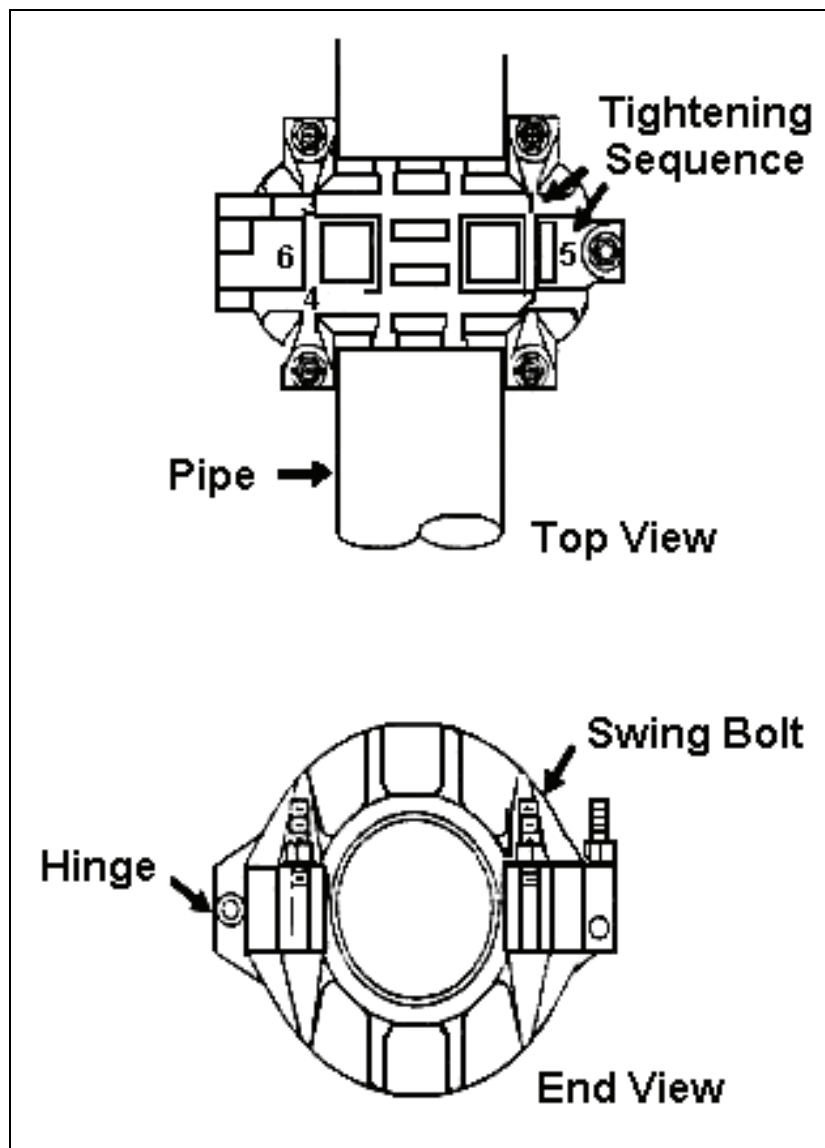

Figure 7
c. Install Over Coupling Clamp (Figure 7).